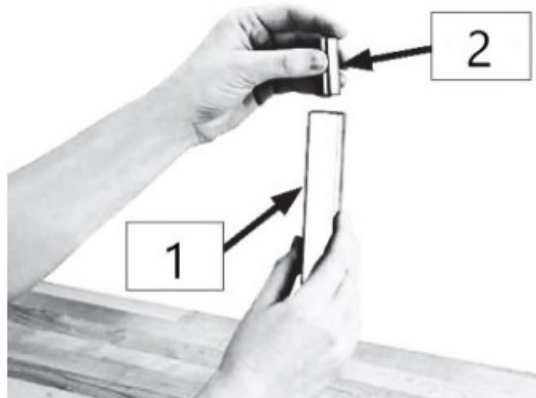

Fig. 4 – Setting in the spacer bar into the cylinder holder
1. Set in the spacer bar of the holder in the lower part of the lower cylinder holder, as shown in Fig. 4.